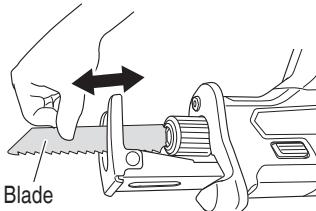

Fig. 9
- Pull the back of the saw blade two or three times by hand and check that the blade is securely mounted. (Fig. 9)